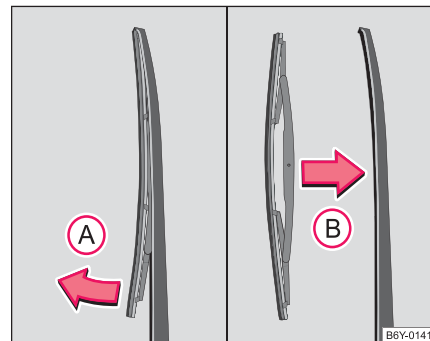

Fig. 41 Wiper blade for the rear window
- Fold the window wiper arm away ⇒ fig. 41.